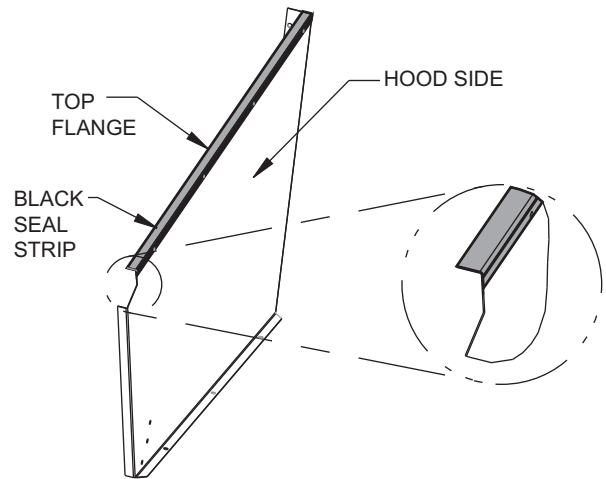

Fig. 15 — Adding Seal Strip to Top of Hood Sides
1. Apply black seal strip (provided) to outside top-edge of hood sides. Wrap seal strip over edge to cover top flange (2 hood sides per hood assembly). Make sure seal strip covers screw holes. See Fig. 15.